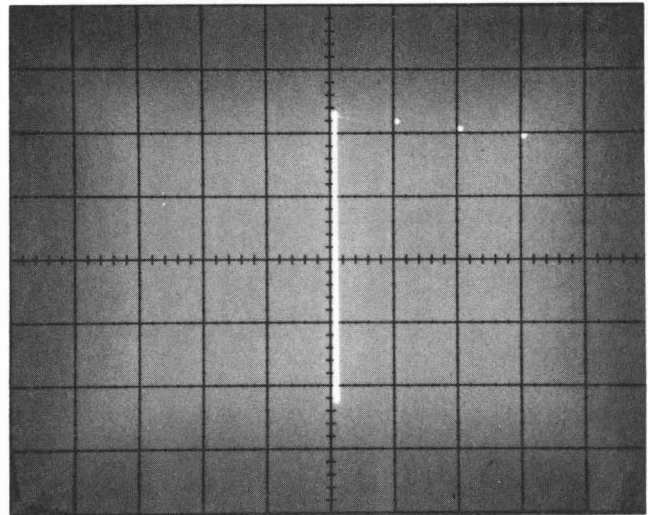

Fig. 5-10. Typical display illustrating step r.
- r. CHECK—The display should resemble Fig. 5-10 or inverted from top to bottom.